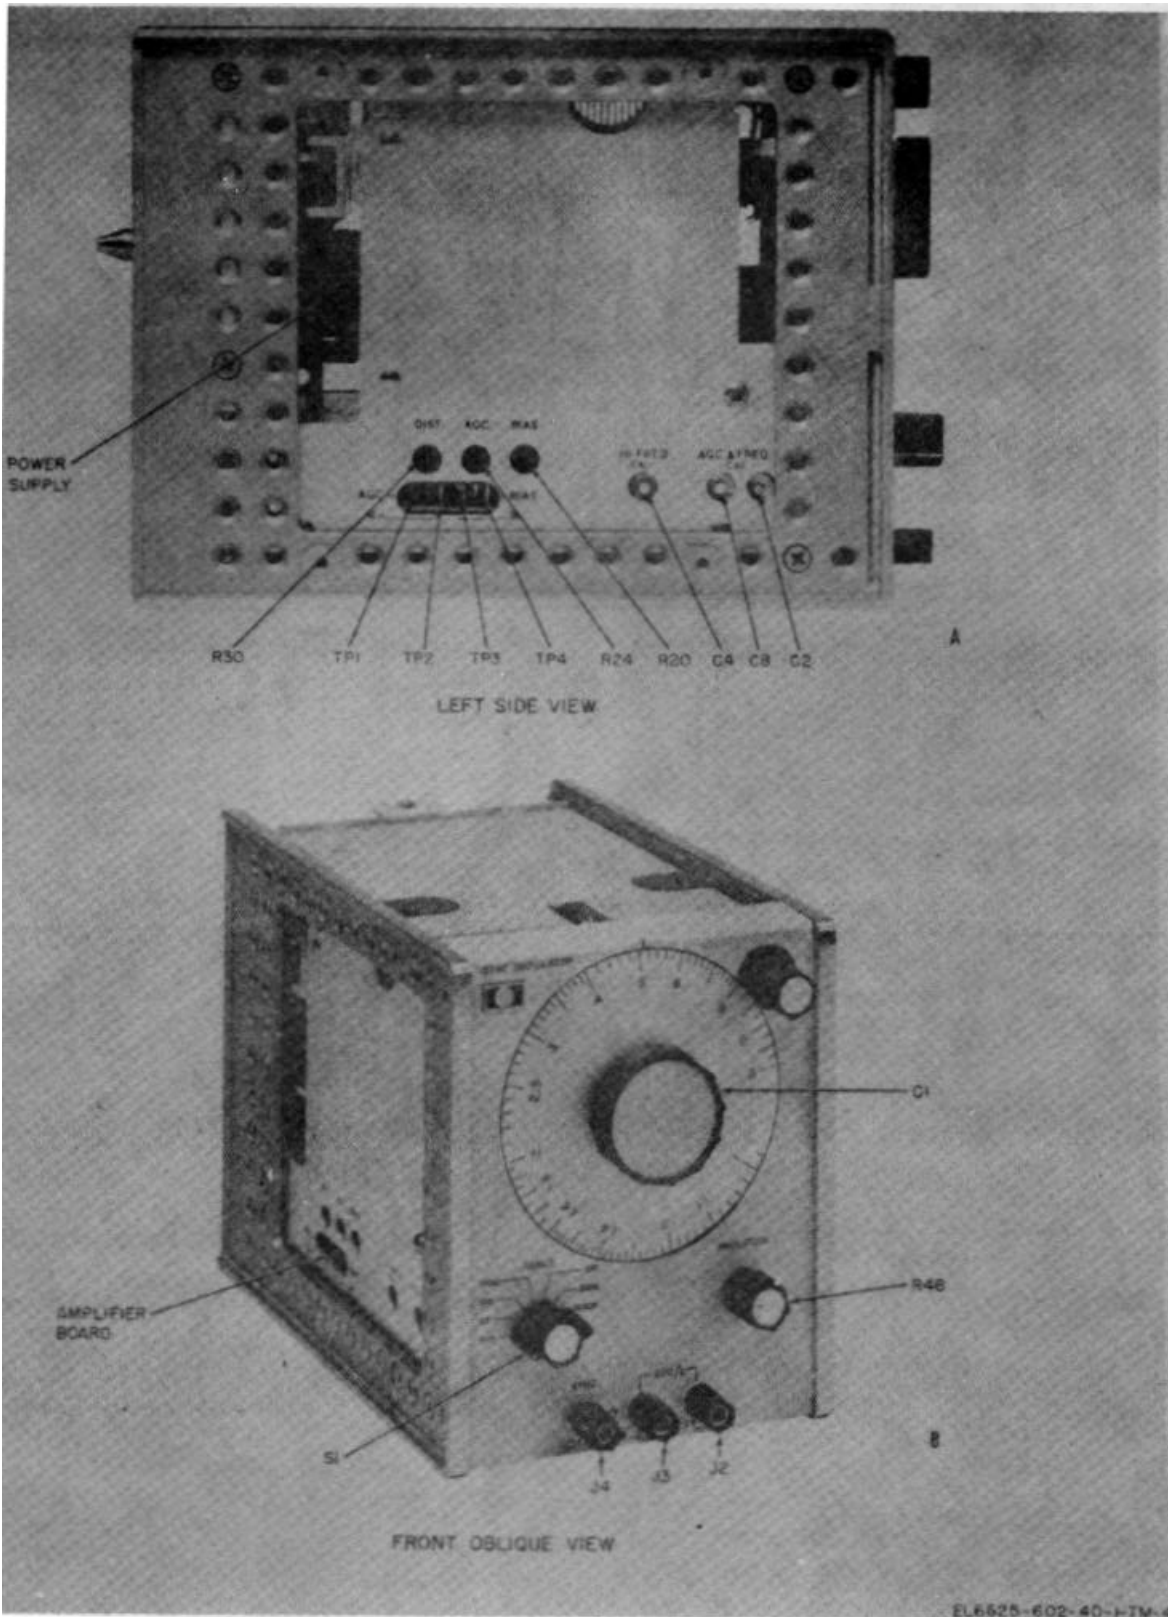

Figure 3-1. Generator, Signal SG-543B/U parts location diagram, front and side views.
a. *General.* In the troubleshooting chart (d below), the procedures are outlined for localizing troubles to a stage within the signal generator. The parts locations are indicated in figures 3-1, 3-2, and 3-3. The voltage measurements are shown in the overall schematic diagram (fig. 5-14). The nature of the operational symptom will determine which of the localizing procedures will be necessary.
turning AGC ADJUST R24 (fig. 3-1) fully counterclockwise. A one volt RMS sine wave may be injected into the gate of Q1. The various stages of the amplifier may now be monitored with an oscilloscope for proper operation. The amplifier should have a gain of three for all frequencies up to 100 KHz.